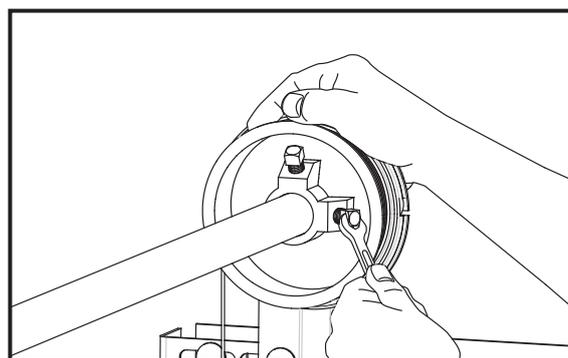

Fig: 3.6.3
- Once the cable is taut, slide the cable drum against the track and tighten the screws to the torsion bar. Fig 3.6.3.